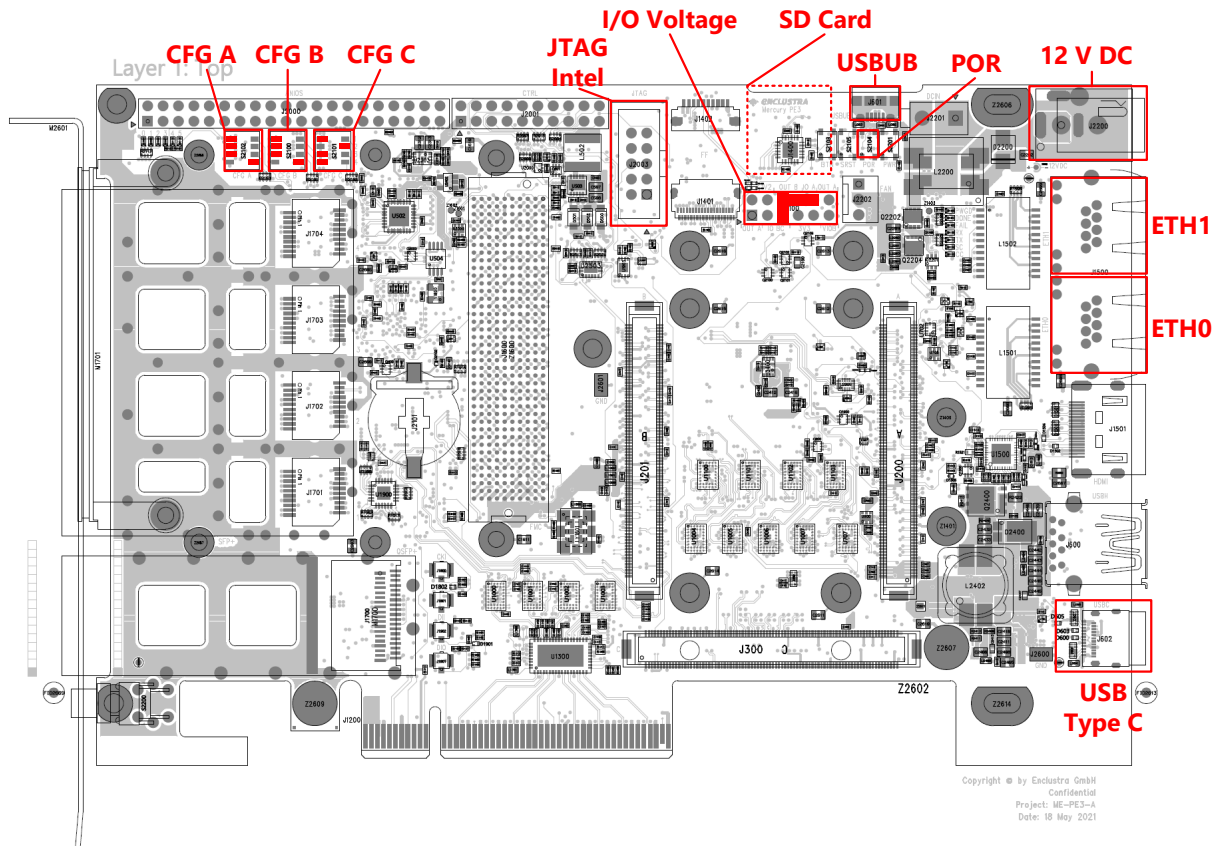
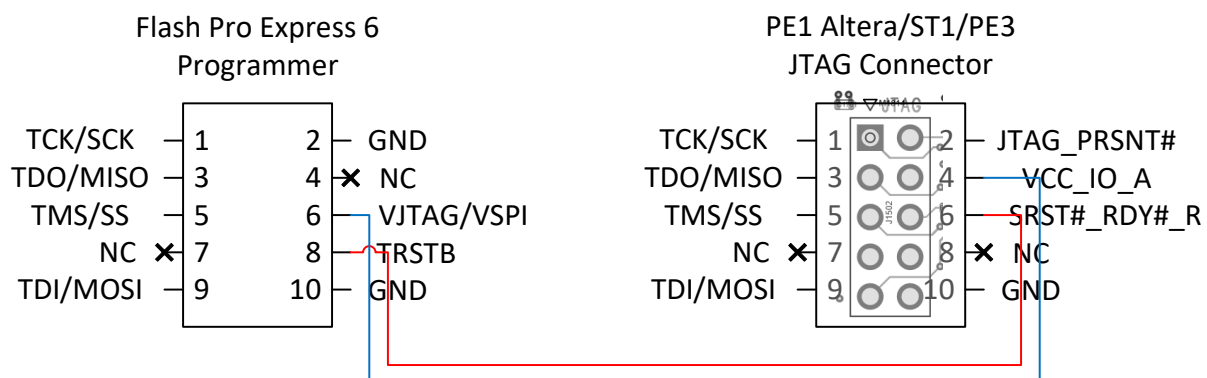

Figure 2: Mercury+ PE3 Base Board Assembly Drawing (Top View)
Figure 3: Mercury+ PE3 Base Board Connection between FlashPro 6 JTAG connector and Mercury+ PE3 base board JTAG connector
1	<p>Set the I/O voltage jumpers on the Mercury+ PE3 base board according to label I/O Voltage in Figure 2 (the jumpers are marked with red rectangles):</p> <ul style="list-style-type: none"> <li>• VSEL A = 1.8 V (position 8-10)</li> <li>• VSEL BC = 1.8 V (position 5-6)</li> </ul>
2	<p>Set the configuration DIP switches on the Mercury+ PE3 base board as follows (see labels CFG A, CFG B and CFG C in Figure 2):</p> <ul style="list-style-type: none"> <li>• CFG A = [1: OFF, 2: OFF, 3: OFF, 4: ON]</li> <li>• CFG B = [1: OFF, 2: OFF, 3: OFF, 4: ON]</li> <li>• CFG C = [1: OFF, 2: ON, 3: OFF, 4: OFF]</li> </ul>
4	<p>Connect the micro USB cable between your computer and the Mercury+ PE3 base board. Use the micro USB port labeled USBUB in Figure 2.</p>
5	Connect the 12 V DC power supply plug to the power connector of the Mercury+ PE3 base board (see label 12 V in Figure 2).
6	Connect the FlashPro6 Microchip JTAG signals to the JTAG connector of the Mercury+ PE3 base board (see label JTAG in Figure 2. Please ensure you connect the JTAG signals according to Figure 3.
*The JTAG pins on the Mercury+ PE3 base board connector and the default FlashPro6 connector do not match. The correct connection is shown in Figure 3.*